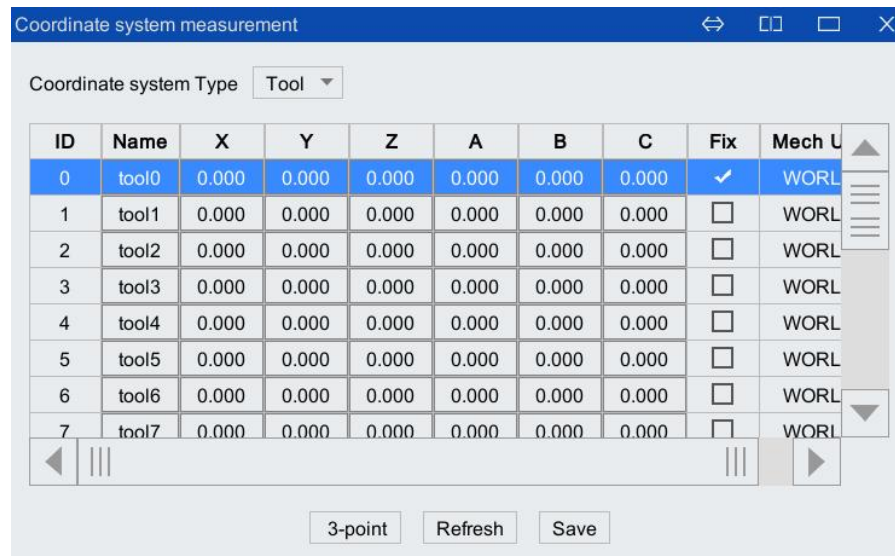

Figure 5-79 "Fixed Coordinate System" interface
- Step7.** Assuming that the name of the "fixed tool coordinate system" to be calibrated is tool0, select the row where tool0 is located, check the "fixed" option in the row where tool0 is located, and then display ✓, as shown in Figure 5-79.